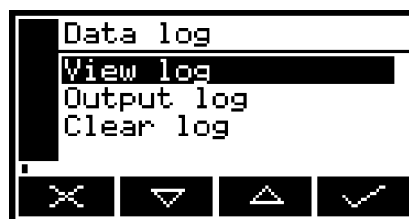

Figure 44 - The Data log options screen
1. With the Menu screen displayed, use the  and  soft keys to highlight the "Data log" option, then press the  soft key. The Data log options screen will then be displayed, as shown in Figure 44.